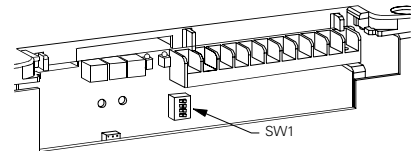

Fig. 14 : Power wiring for motor, wired "In Line" with bypass contactor
**Bypass Contactor.** The applications shown in Fig. 14 and Fig. 18 include a bypass contactor (K1). The bypass contactor is rated to handle the running current of the motor (AC1) but not the starting current (AC3). The bypass contactor remains open until the soft starter has soft-started the motor. Once the motor is operating at line voltage, the Up-to-Voltage contact closes and the bypass contactor is energized causing motor current to flow through the bypass contactor rather than the soft starter.